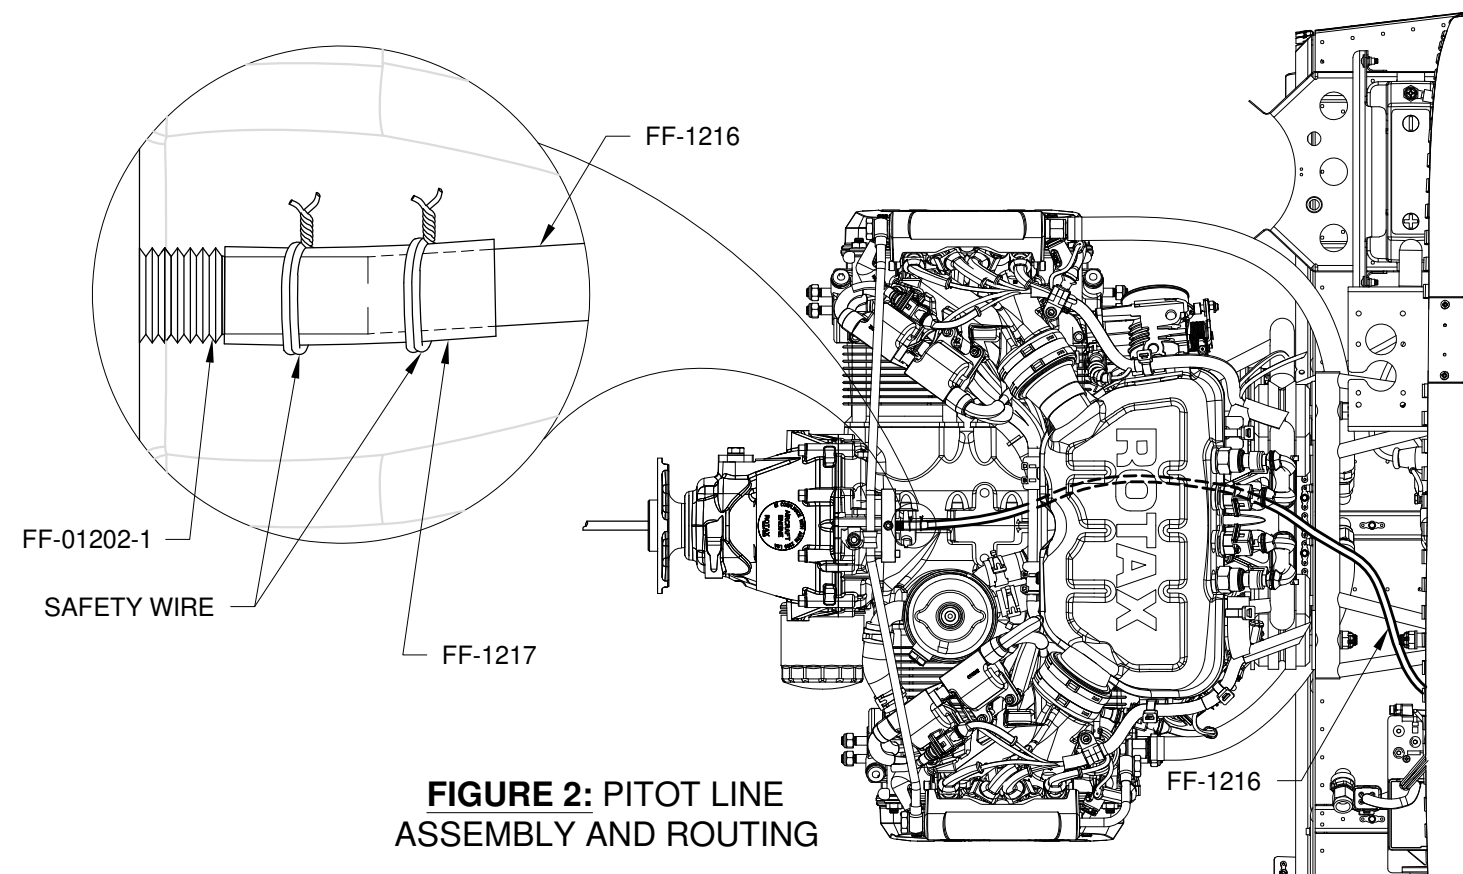

FIGURE 2: PITOT LINE ASSEMBLY AND ROUTING
Step 4: Double wrap safety wire around the FF-1217 as shown in Figure 2.
Step 5: Route the FF-1216 as shown in Figure 2 and Figure 3. Temporarily cover the aft end of the FF-1216 to keep debris from entering the line and temporarily secure the tube until it is connected during the avionics installation.